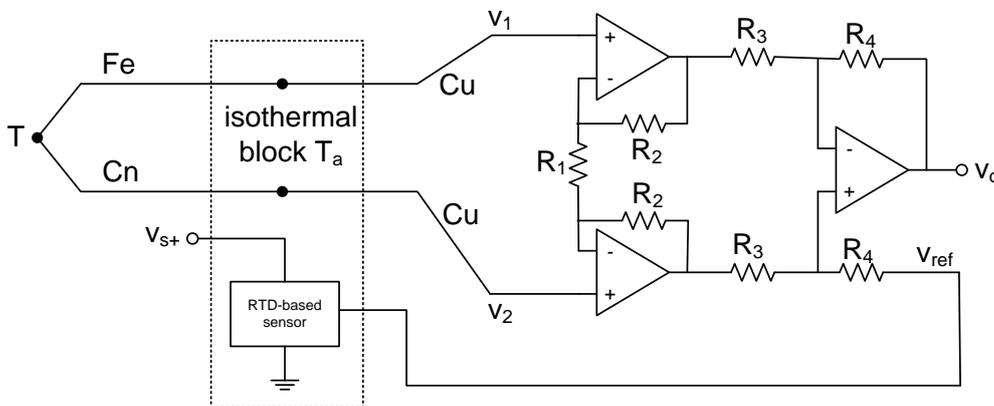
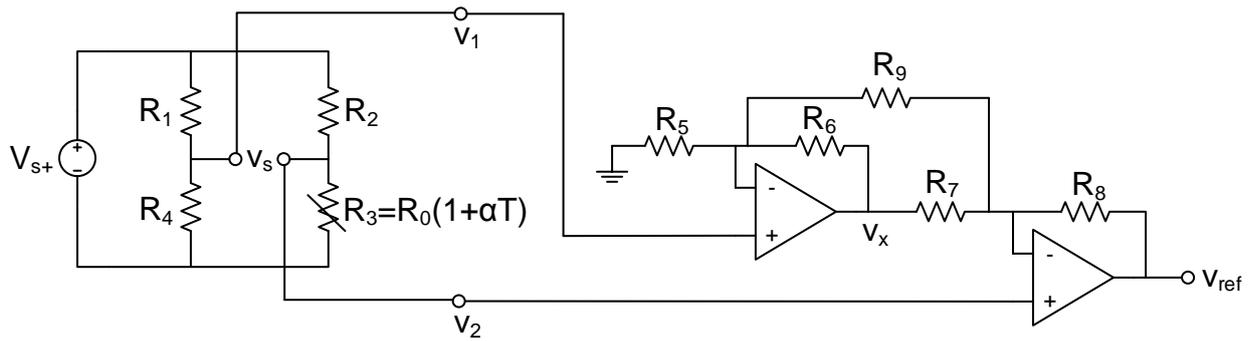

Figure 1: Compensation with a RTD-based sensor and instrumentation amplifier.
Figure 2: Implementation of "RTD-based sensor" block of Figure 1.
The thermocouple in Figure 1 contains a reference junction compensation based on a RTD temperature sensor. The output voltage of this sensor ( $v_{ref}$ ) is given by the following transfer function:  $v_{ref} = 10mV/^{\circ}C \cdot T_a$  with  $T_a$  the environmental temperature at the reference junction. The output of the reference temperature sensor is connected to the reference input of the instrumentation amplifier. It holds for this instrumentation amplifier:
- (5p) (a) There are three important laws that you can use when analysing thermocouples, namely the law of the homogeneous circuits, the law of intermediate metals, and the law of intermediate temperatures. Show using these laws that the voltage across the thermocouple shown in Figure 1 is equal to:
- (5p) (c) The circuit shown in Figure 2 is used to generate the reference voltage  $v_{ref}$  for the thermocouple sensor shown in Figure 1. In other words, Figure 2 shows the internals of the block "RTD-based sensor" in Figure 1. Assume that the supply voltage  $v_{s+}$  is equal to 5 V. Assume further that resistor  $R_3$  is a temperature dependent resistor (RTD) of type PT100. Its relation between temperature and resistance (transfer function) can be approximated with the following linear equation:  $R_3(T) = R_0(1 + \alpha T)$ , with  $R_0$  equal to  $100\Omega$  and  $\alpha = 0.004/^\circ\text{C}$ . Assume also that  $R_4 = R_5 = R_6 = R_7 = R_8 = R_0$  and  $R_1 = R_2 = k \cdot R_0$ . What resistance should the resistor  $R_2$  have to ensure that the "RTD-based sensor" has a sensitivity of  $10\text{mV}/^\circ\text{C}$ ?